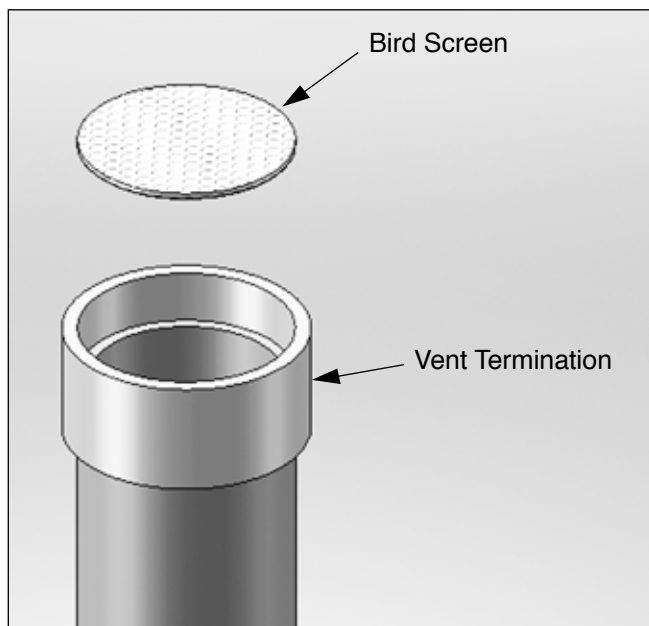
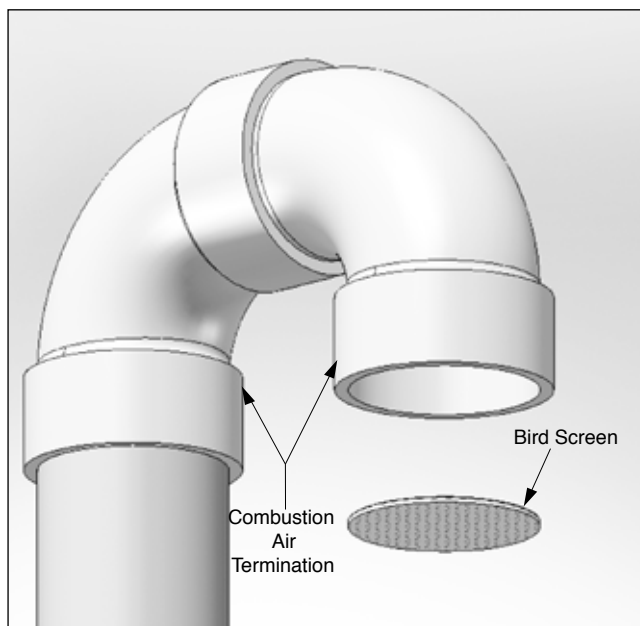

Fig. 3 - Vertical Vent Bird Screen Installation
Fig. 4 - Vertical Combustion Air Bird Screen Installation
1. The vent and combustion air terminations must include a factory supplied "bird screen" installed as shown in *Fig. 3* and *Fig. 4 on page 14*